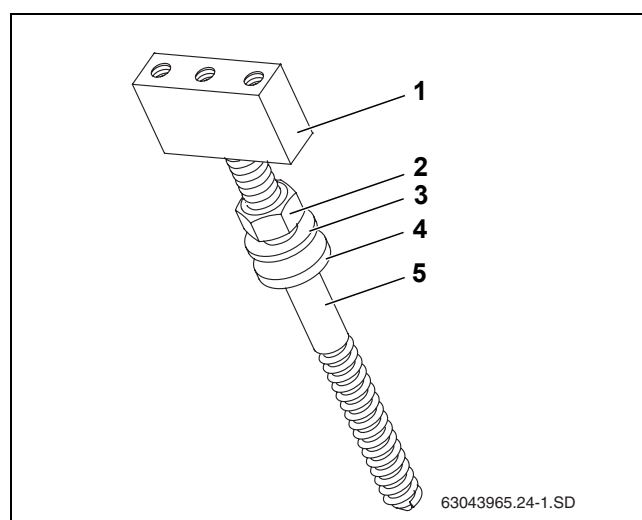

Fig. 24 Fitting the carriage bolts - sequence
- When fitting the carriage bolts, pay attention to the sequence of the individual parts (Fig. 24).
- Turn Holding Bracket (Fig. 24, [1]) as far as it will go onto the double ended screw (Fig. 24, [5]).